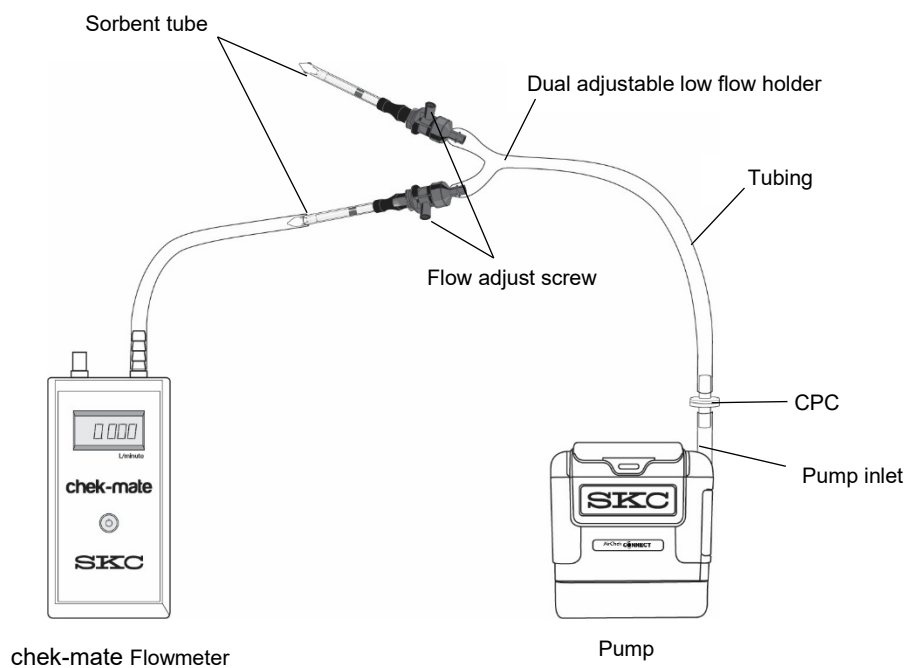

Figure 5. Flow Rate Verification Train (5 to 500 ml/min) for Multiple Tubes — Constant Flow Mode
- Multiple-tube sampling can be done using a Constant Pressure Controller (CPC) (Figure 5) and a Dual, Tri, or Quad Adjustable Low Flow Tube Holder accessory. See CPC and Adjustable Low Flow Tube Holder operating instructions for details on operation.
1. On the tube holder, insert an opened representative sorbent tube (arrow on tube pointing toward the pump) into the rubber sleeve on the port. Repeat for the desired number of tube samples. See Figure 5. **Note:** Place an unopened (inactive) tube in any unused port to “seal” it.